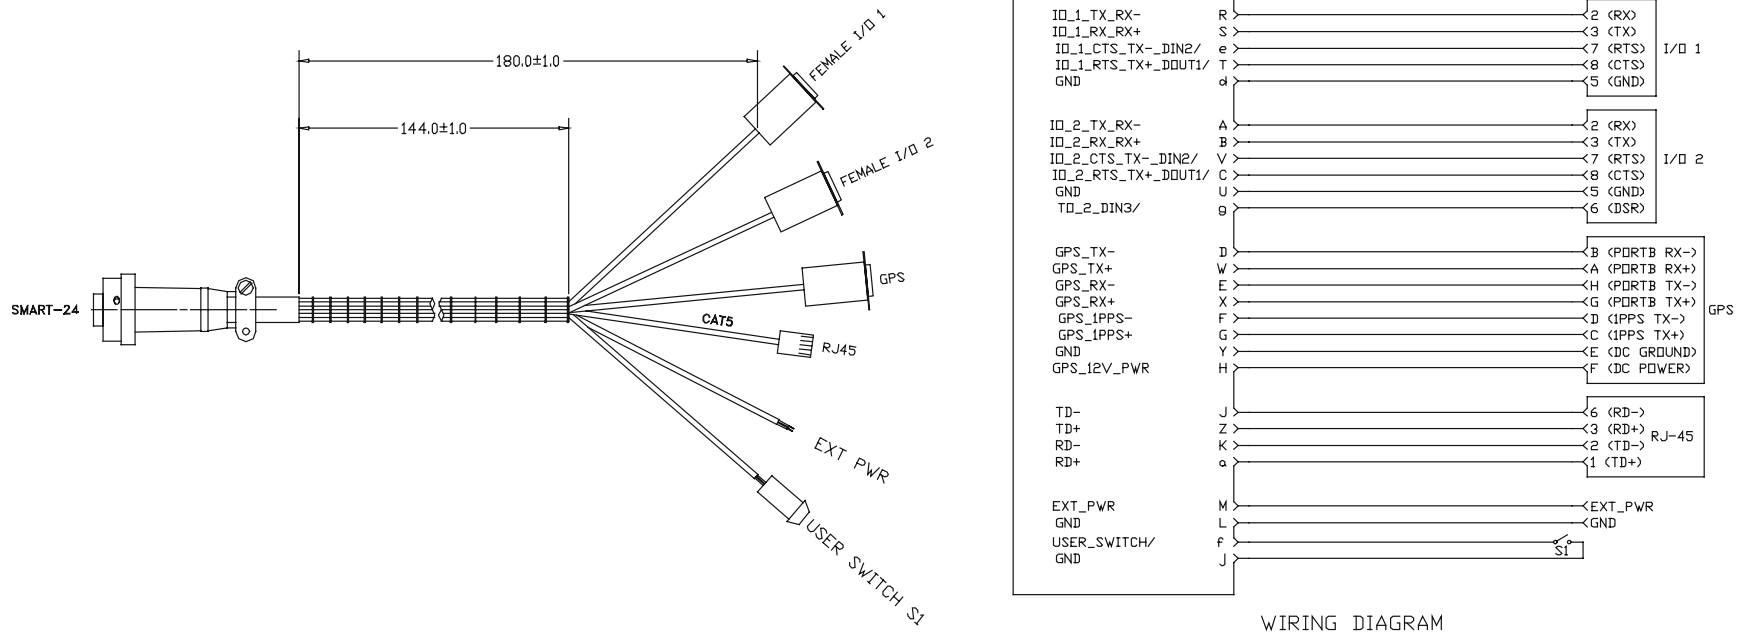

Figure A-12. SMART-24B Digital I/O Cable,
- Figure A-12. SMART-24B Digital I/O Cable,